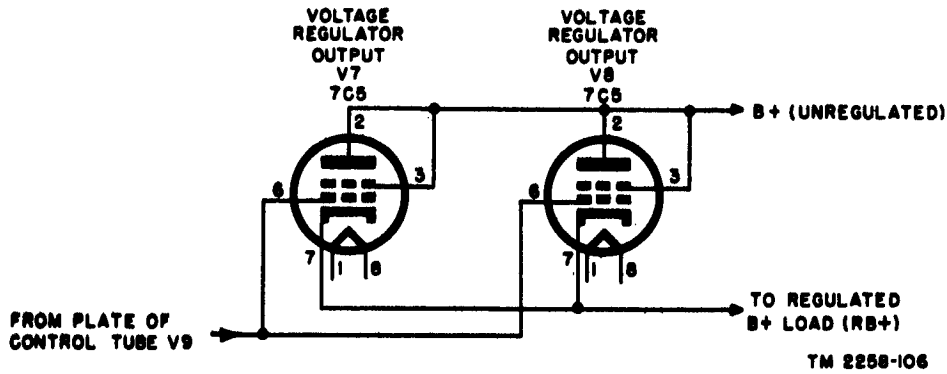

Figure 63. Voltage regulator output stage, RB+ circuit
### 79. B+ Voltage Regulators (V7, V8, V9, and V25) (figs. 63, 64, and 65).
*a.* Two triode-connected voltage regulator output tubes (V7 and V8, type 7C5) (fig. 63) are connected in parallel with their plates at +450-volt potential and their cathodes at +250-volt potential. In this way, their plate cathode impedance forms a variable series dropping resistor to drop the +450 volts to +250 volts. The value of this dropping resistor is automatically varied by varying grid bias of the tubes to provide a constant output voltage. Tube V9, type 7L7, a pentode, control voltage amplifier tube amplifies voltage changes in the +250-volt supply and controls the grids of regulator tubes V7 and V8. The gaseous voltage regulator tube (V25) in the cathode circuit of V9 provides a constant voltage drop (approx. 70 volts), serving as a reference level for stabilizing the +250-volt output. This tube is type R1160A or R1160B in Facsimile Transceivers TT-1/TXC-1 and TT-1A/TXC-1 and type 5651 in Facsimile Transceivers TT-1B/TXC-1 through TT-1F/TXC-1. The output voltage may be stabilized anywhere between +240 and +255 volts, but once established, it will not vary more than 2 volts under normal operating conditions.